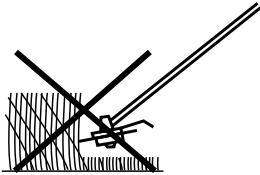

Fig. 14c
8). Trim longer grass in stages, do not cut long grass in one cut. For the best results, cut longer grass in steps. (See Fig.14c, 14d)